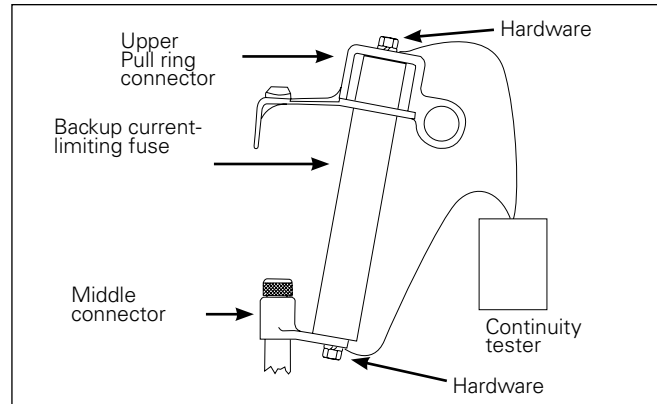

Figure 7. Testing/refusing the backup current-limiting fuse
1. Perform a continuity check on the backup current-limiting fuse as shown in Figure 7.